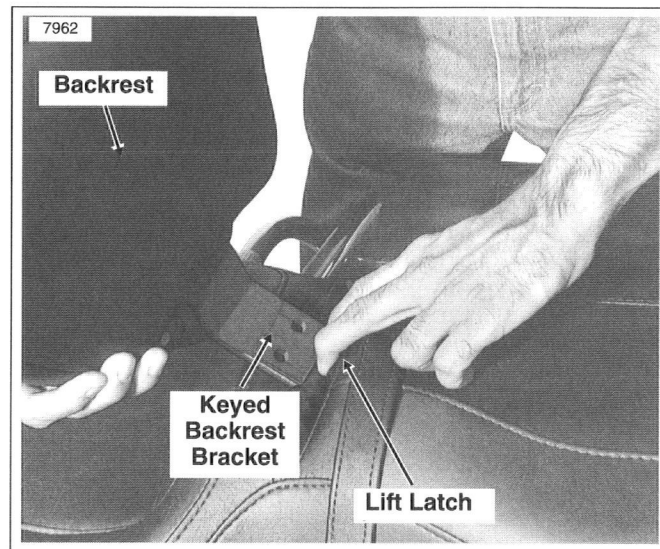

Figure 28. Backrest Installation
3. See Figure 28. Spread the seat covering at the base of the Rider Backrest exposing the lift latch.
2. See Figure 28. Pull back the locking latch toward the rear of the motorcycle. Slide the bottom of the Rider Backrest into the rectangular opening and lock the two pins in place in place.